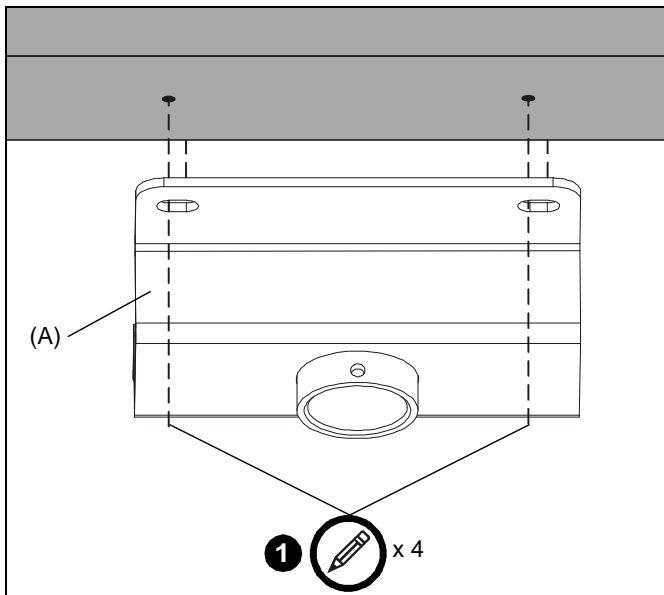

Figure 1
- Using ceiling plate (A) as a template, mark locations of four pilot holes (See Figure 1). Ensure the marks are in the center of wood joists.